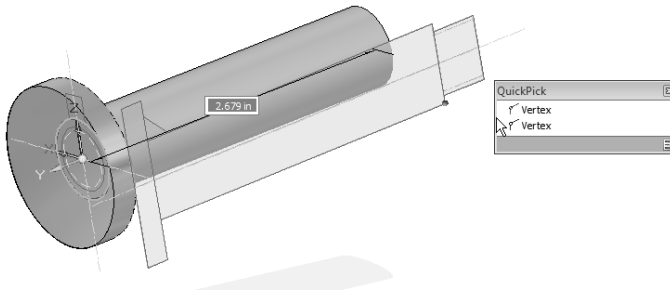

Figure 12-51 Preview of the second feature
3. Next, select the second outer circle and invoke the **Extrude** tool. Now, snap the extrusion height with the endpoint of the second rectangle, as shown in Figure 12-51; the second feature is created.